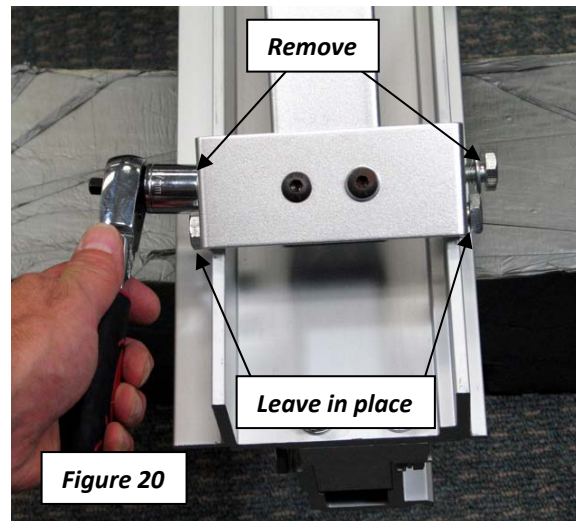

Figure 20
20. Remove the two (2) M10 bolts from the top end of the Rear leg with a 17mm wrench. *Leave the two M10 bolts with sleeves in the U-shaped slots in place* (Figure 20), and carefully remove the rear leg assembly from the machine.